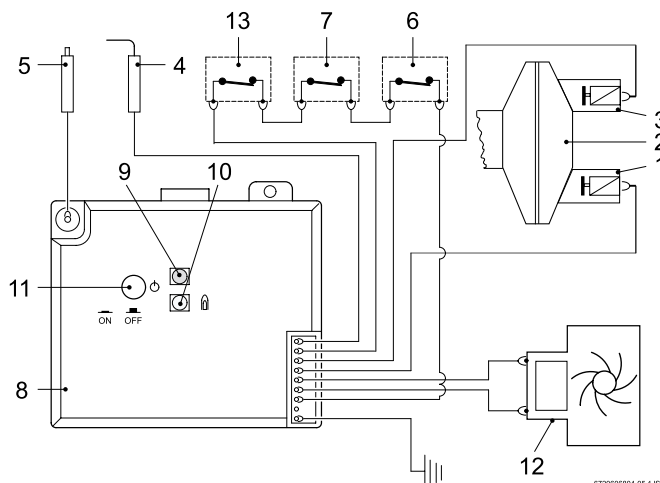

Fig. 13 - Electrical wiring diagram
4. Pilot electrovalve switch may need to be replaced (See Fig 13).
Measure milivoltage at pilot electrovalve (see Fig. 13).
5. Electronic Control Box may need to be replaced (See Fig 13).
Check wire connections and test operation of electronic control box (see Fig. 13).
Measure millivoltage at burner electrovalve (see Fig. 13).
4. **The Electronic Control Box (Fig. 13) may need to be replaced.**